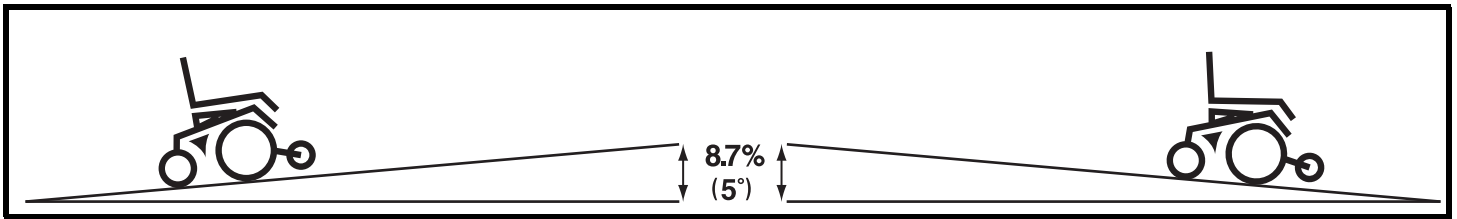

Figure 1. Maximum Safe Slope (Ascending and Descending)
**WARNING! Even though your power chair is capable of climbing slopes greater than those illustrated in figure 1, do not, under any circumstances, exceed the incline guidelines or any other specifications presented in this manual. Doing so could cause instability in your power chair.**
Pride recommends that the maximum slope of an incline you attempt to safely ascend or descend on your power chair does not exceed 8.7% (5°). See figure 1.